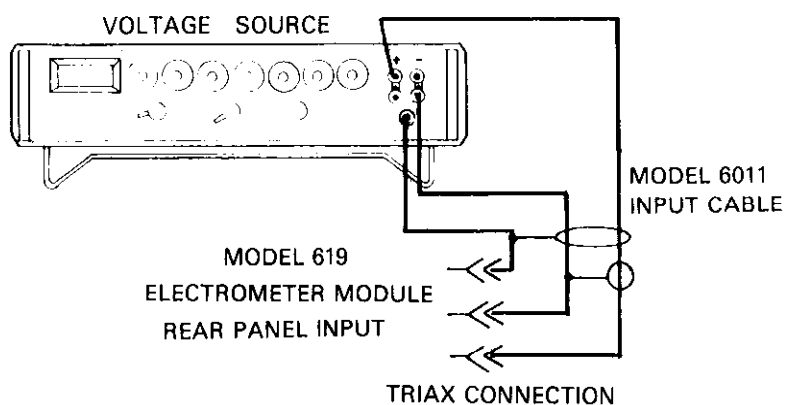

Figure 6-4. Supply Calibration 2 Volt
3. 2 Volt A/D Reference Supply Calibration: Up-range the Model 619 to the 2 Volt range, and apply +1.9000 Volts to its input. Adjust R415 for a display reading of +1.9000 +0 to within ± 1 count. Refer to Figure 6-4.